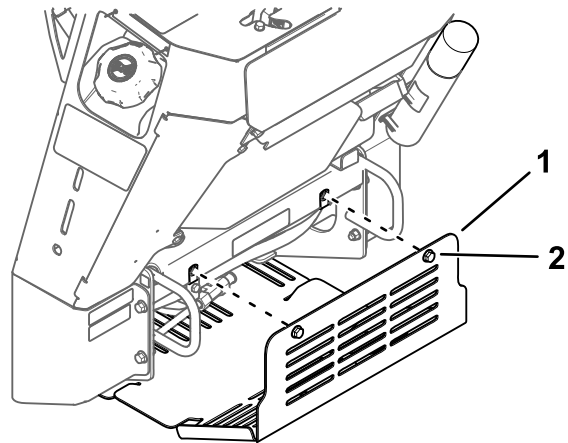

Figure 21
3. Loosen the 2 bolts securing the bottom shield sequentially until the shield is free (Figure 21).